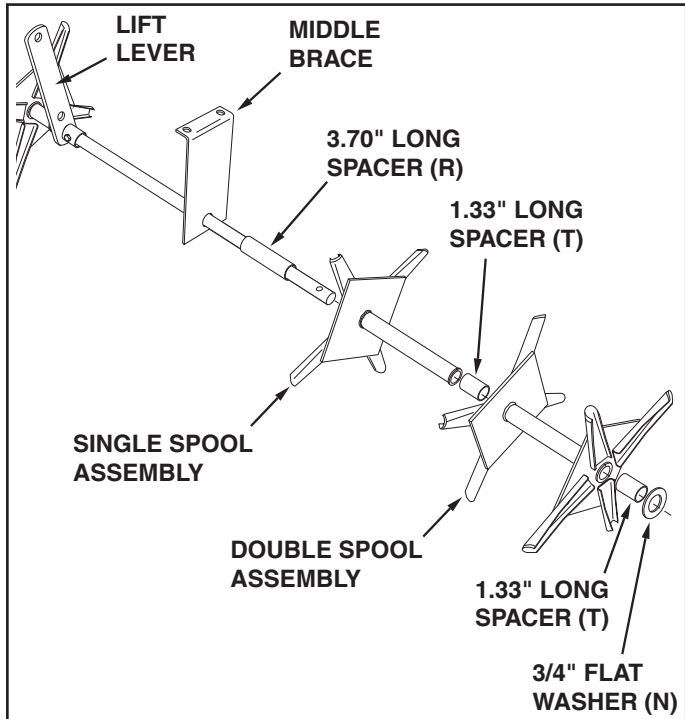

FIGURE 4 REAR VIEW
5. Assemble the middle brace onto the **long end** of the shaft with the bent end of the brace facing the lift lever. Next assemble a 3.70" long spacer (R), a single spool assembly, a 1.33" long spacer (T), a double spool assembly, a 1.33" long spacer (T) and a 3/4" flat washer (N) onto the **long end** of the shaft. See figure 4.